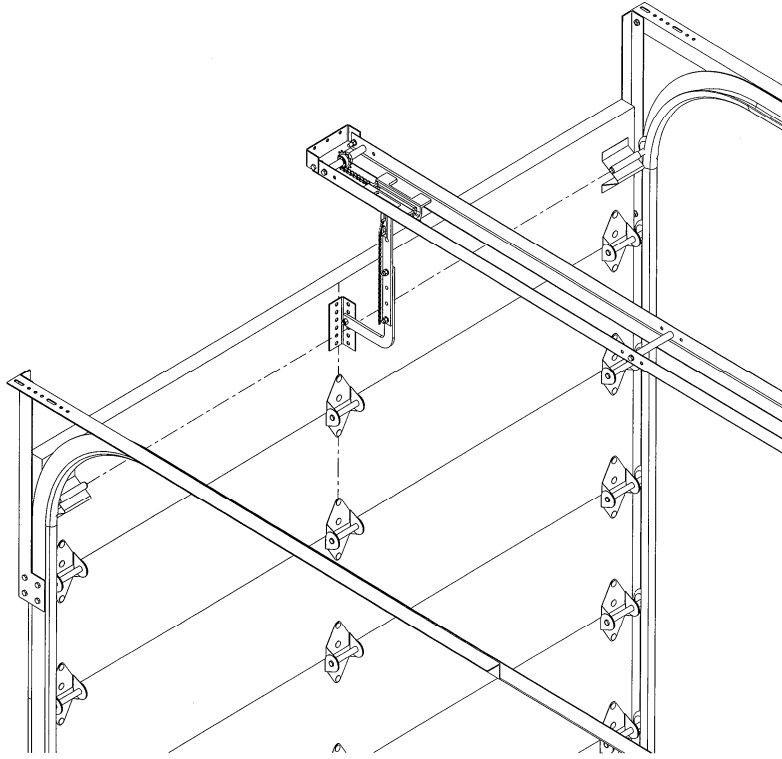

Figure 12 Installing door arm to door
13. Close door. Connect door arm to carriage using $3/8" \times 2-1/4"$ bolt furnished. Fasten door bracket to arm and position on door as shown in Figure 12. Mount door bracket to center of door in such a way that the door bracket is also in line with the top rollers on the door.